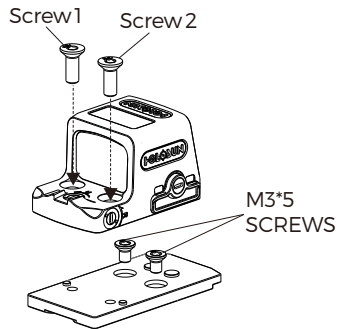

Fig 7-3
3. LEM series: To use the included GLOCK MOS adapter plate, first use two included M3*5 screws to attach the adapter plate to the slide and then use the provided screws to attach the sight to the adapter plate. Excluding EPS-CARRY-RD-MRS-LEM.(See Fig 7-3)